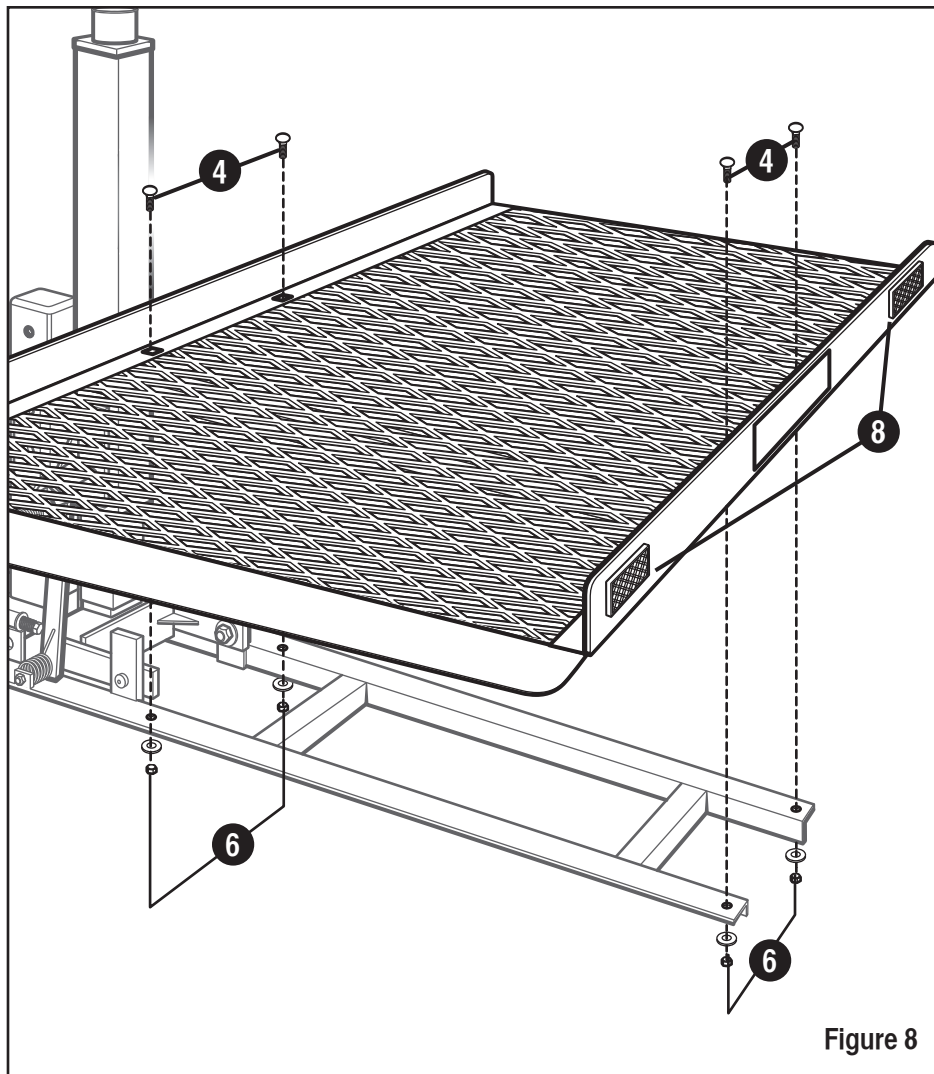

Figure 8
4. Align the four square holes in the Platform with the holes in the Lift Assembly frame (**Figure 8**).